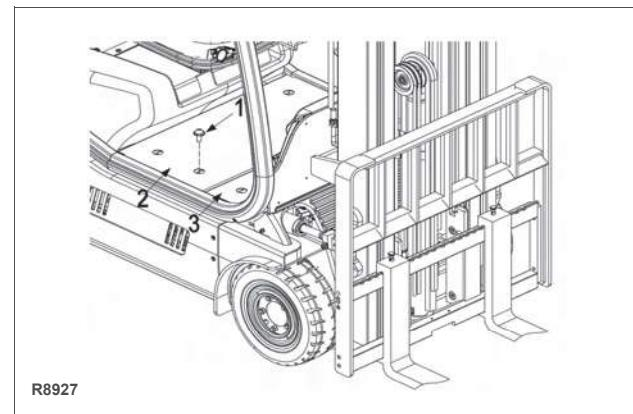
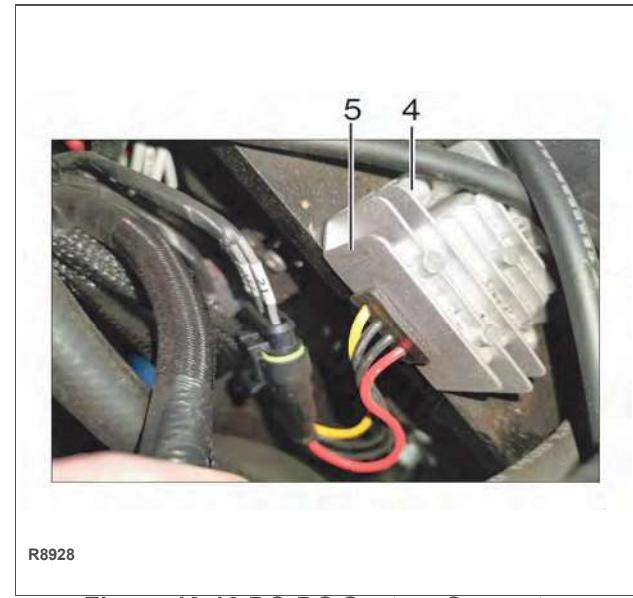

Figure 10-9 Floor Plate
Figure 10-10 DC-DC System Converter
2. Remove the floor mat and then remove the six screws (1, Figure 10-9).
3. Remove the front floor plate (3) and back floor plate (2).
4. Disconnect harness from DC-DC system converter (5, Figure 10-10).
5. Remove the two screws (4).
6. Remove the DC-DC system converter (3).